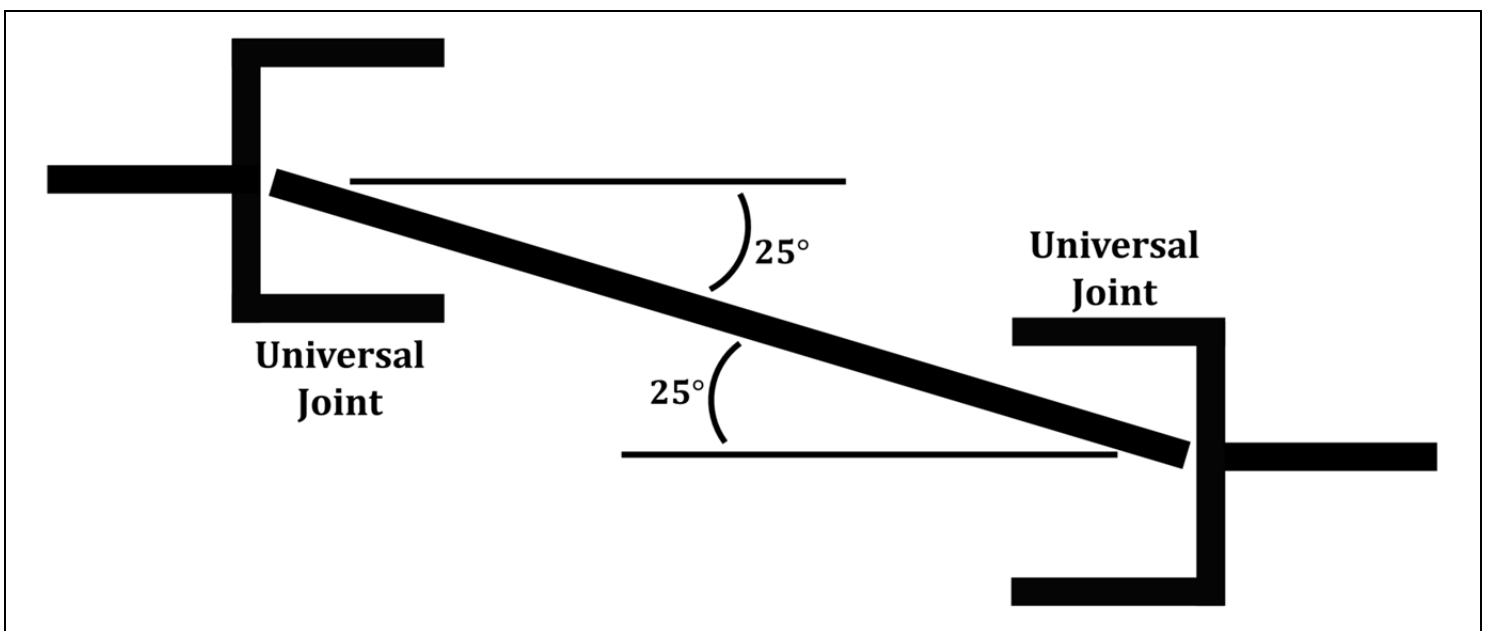

Figure 6. Maximum Angle Between Universal Joints
- e. The angle between the universal joints at either end of the driveline does not exceed 25° . For further clarification, please refer to *Figure 6*, below.